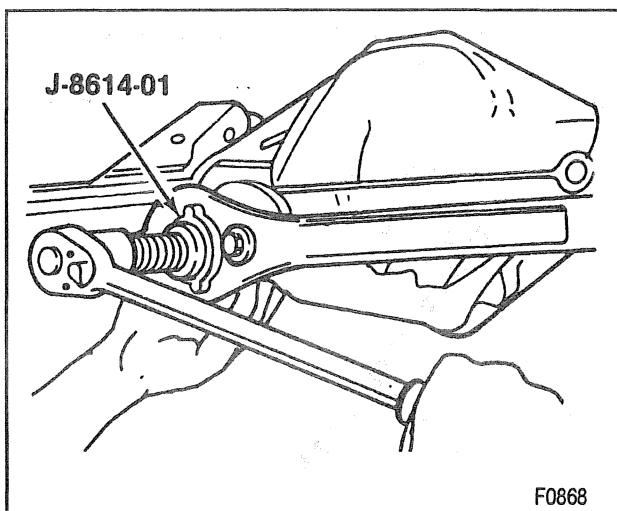

Figure 18—Removing the Drive Pinion Flange
- Use the special nut and forcing screw to remove the flange (figure 18).